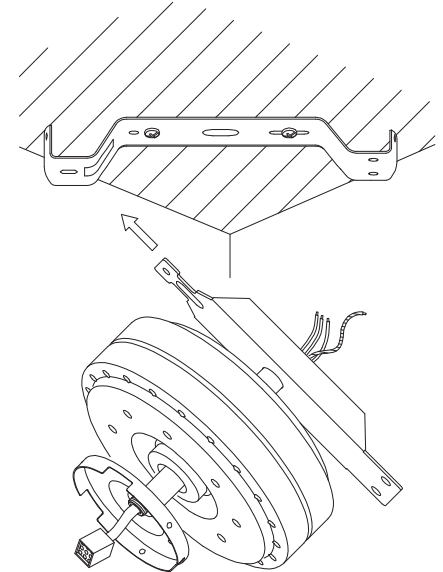

Fig. 5
Step 2. Carefully lift the fan motor/hanger plate assembly up to the ceiling mounting plate and insert the assembly to one end of the ceiling mounting plate. See **Fig. 5**.